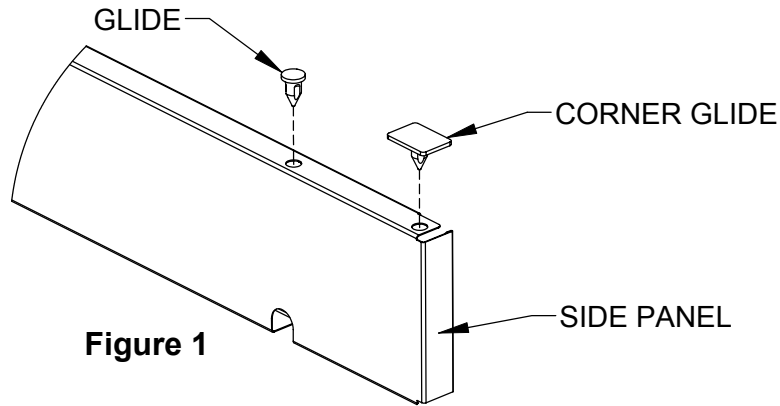

Figure 1
- Step 2:** Place SIDE PANEL on edge with the (5) holes flange up. Align clear plastic CORNER GLIDE lengthwise on the panel and insert one in each end hole. Insert brown plastic GLIDE in the three remaining holes as shown in Figure 1. **Note:** Do not use excessive force as this may damage the panel. Repeat with other side panel.